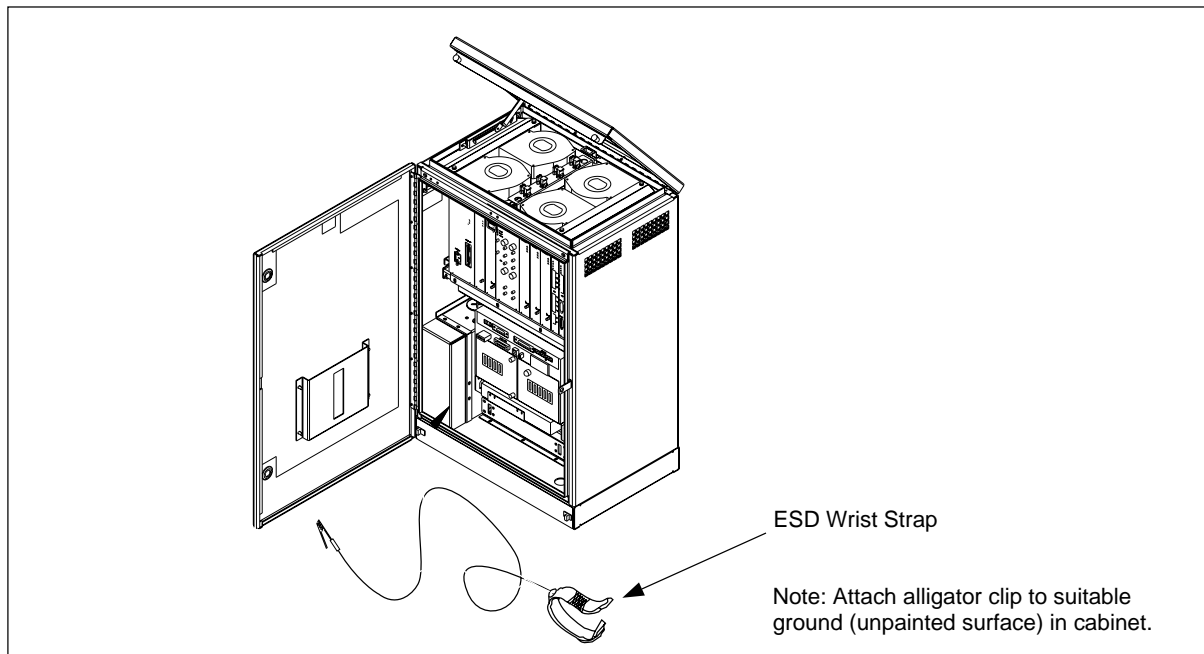

Figure 5-2. Opening the RBS Cabinet and Attaching the ESD Strap
3. Attach the ESD strap to your wrist and connect the “alligator” connector to a suitable ground on the cabinet chassis. Do not attach to a painted or coated surface. See Figure 5-2 on page 5-8.